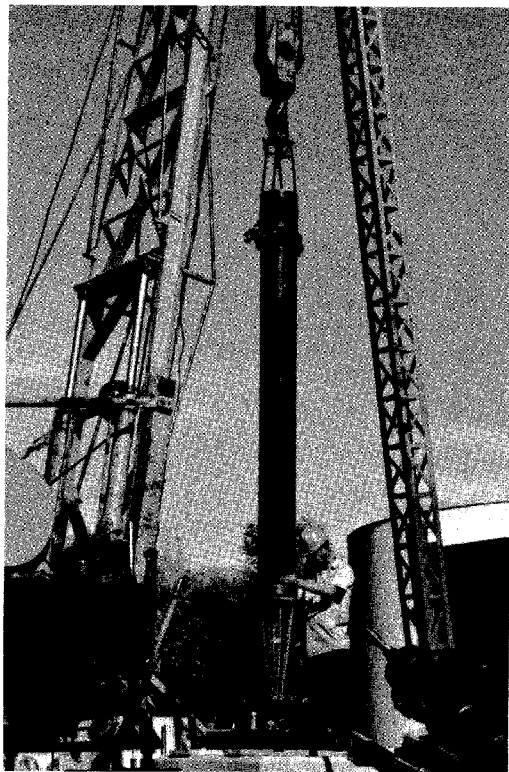

Fig. 7-1. Suction Pipe Hoisted Over Well.
A. The hoisting rig should now be set up. The installation instructions given in this manual are based upon the use of a mobile power-operated hoist such as that shown in Fig. 7-1. This affords the greatest convenience for pump installation. If any other hoisting arrangement is used, it will be necessary for the installer to interpret these instructions to suit the requirements of his equipment.
1. Securely fasten an elevator clamp near the top of the suction pipe approximately two feet below the threads. This position will permit easy make-up of the joint. Attach a sling to the elevator clamp and pass the looped end over the hoist hook. (See Fig. 7-1.) While a workman supports the lower end of the suction pipe (and strainer, if used) hoist the pipe into position over the well.